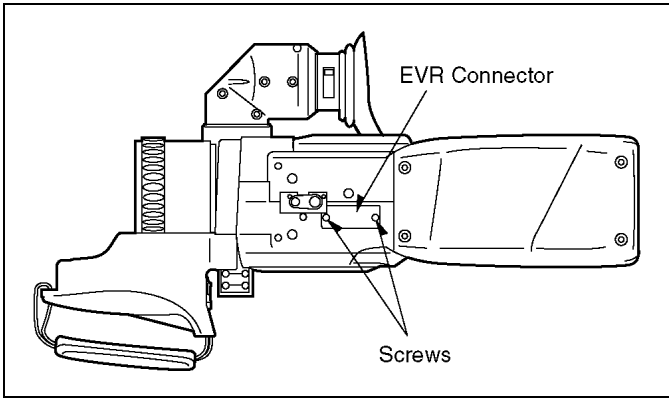

Fig. E1
1. Unlock the locking tab and remove the EVR connector as shown in Fig. E1.